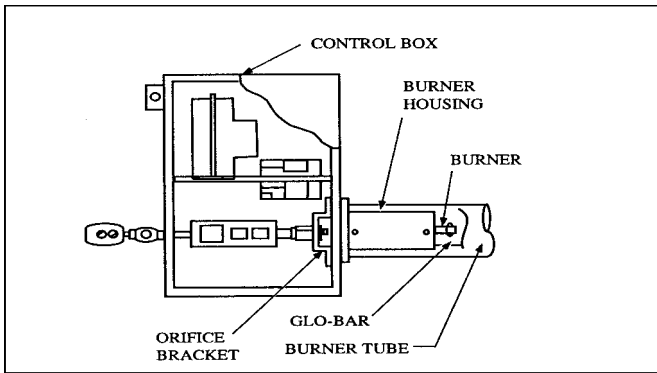

Figure 4-2
2. Remove cover from control box (see Figure 4-2).